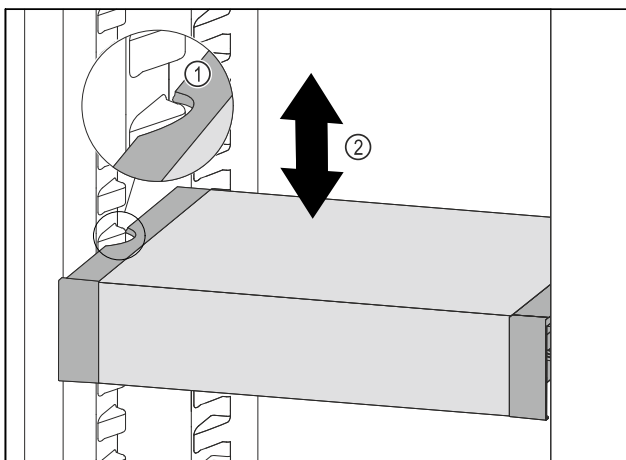

Fig. 92
- Pull VarioSafe forwards until the recesses in the side of the VarioSafe are at the level of the support rib in the refrigerator compartment. Fig. 92 (1)
- Move VarioSafe up or down in the refrigerator compartment until the desired height is reached. Fig. 92 (2)